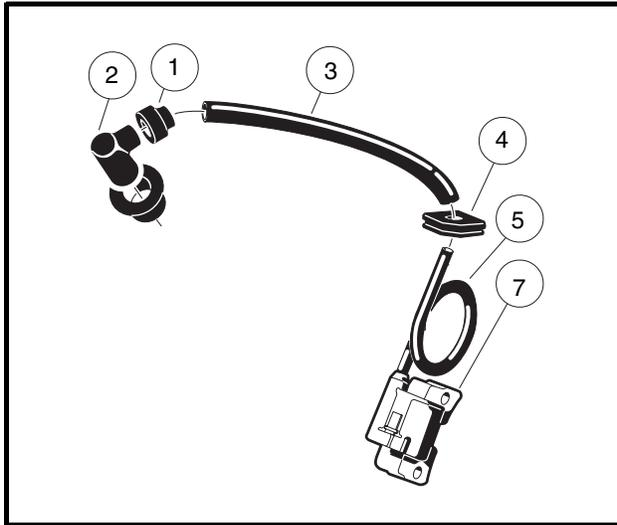

Figure 11-20 Ignition Coil and Cap
- 4.1. Remove the rubber gasket (1) on the plug cap (2) by rolling back the gasket onto the spark plug wire (3) (**Figure 11-20, Page 11-23**).
- 4.1. Remove the rubber gasket (1) on the plug cap (2) by rolling back the gasket onto the spark plug wire (3) (Figure 11-20, Page 11-23).